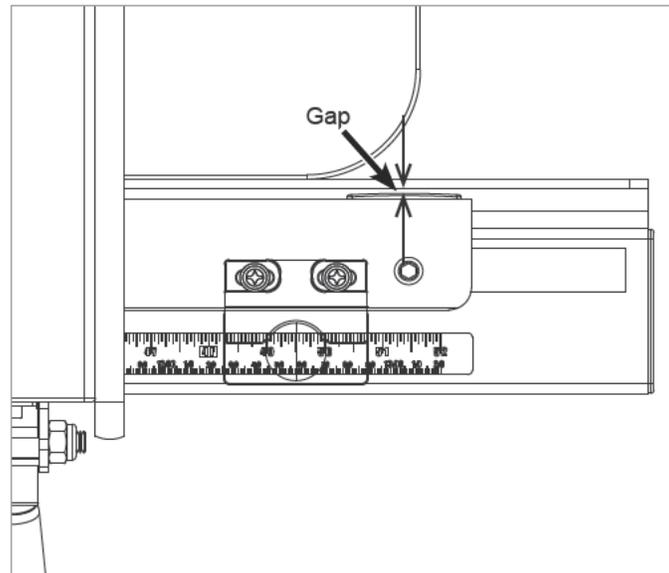

Fig. 33
22. Next, move the fence to the right end of the tube, repeat the above process to position the tube, and tighten the right-most screw (See Fig. 33). Once both ends of the tube are adjusted correctly, tighten the remaining M8 x 16 hex head bolts to mount the front tube to the front rail. The fence should now slide smoothly along the front tube without binding and without excessive play.